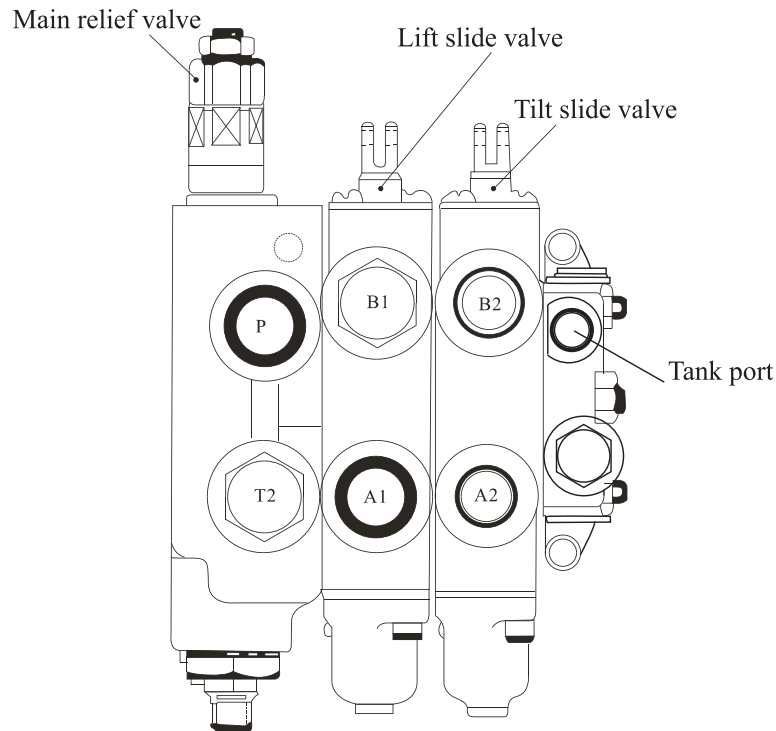

Fig. 7-1 Control valve
7.3 Control valve (See Fig. 7-1)